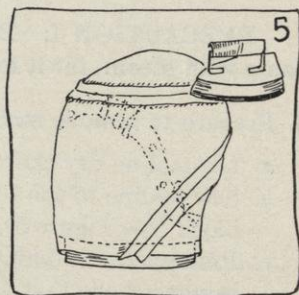

FIG. 5.
- Press the seams open on the crown block (see Figure 5).
- Steam a two-pieced crinoline foundation right over the ribbon headsize band that is already on the block, reading and following Job 43, Sections 1, 2, and 3 *a* (1) through (12) (pages 174 and 175). Be sure that the tip is steamed far enough down on the side crown so that no rough edges from the side crown will show when the hat is made up.